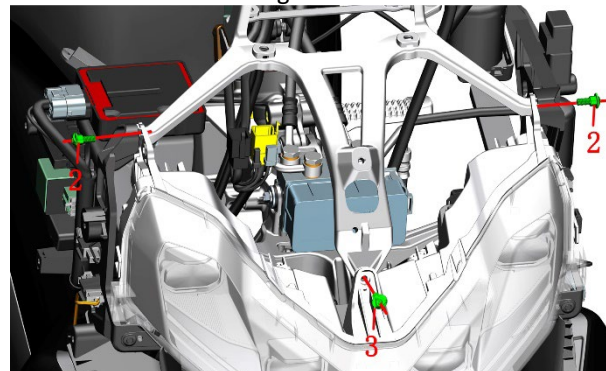

Figure 2-2
If it is a standard windshield, the two bolts M6 × 16 (2) and one bolt M6 × 14 (3) in Figure 2-2 need to be removed, and the instrument panel bracket should be held to prevent it from falling off.